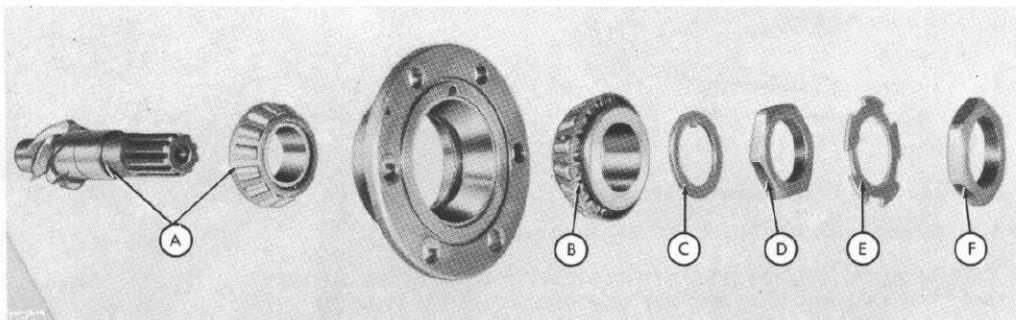

Fig. 3
Step 1—Straighten the tabs on the lockwasher (E-Figure 3).
Step 2—Remove the outer locknut (F-Figure 3), lockwasher (E-Figure 3), and the inner locknut (D-Figure 3).
Step 3—Remove the thrust washer (C-Figure 3).
Step 4—Remove the pinion and rear bearing assembly (A-Figure 3). Be sure to catch the forward bearing (B-Figure 3) as the pinion and rear bearing are removed.